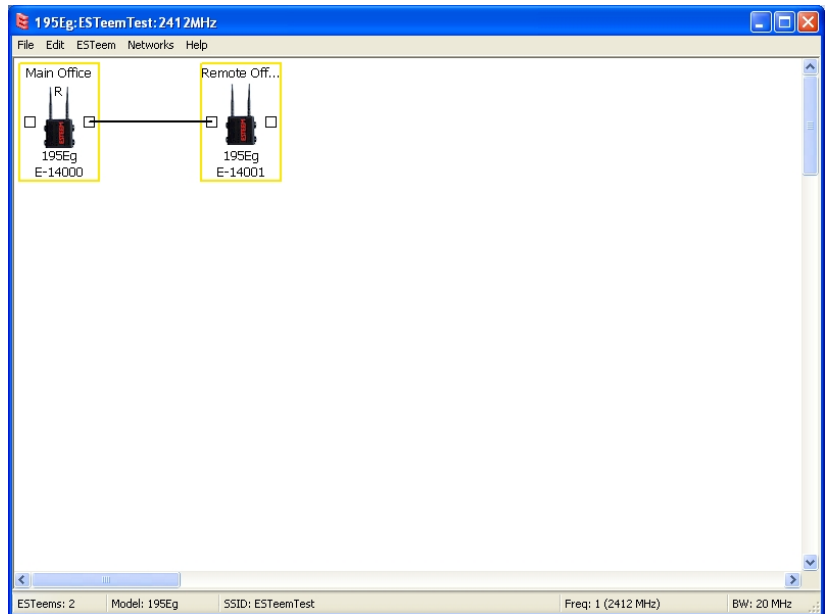

Figure 13: Create Wireless Link
1. Add the two ESTeem Model 195C/Ms to the network using the above procedure. Once both ESTeem 195C/Ms are on the configuration page, create a wireless link by clicking on one of the two connection boxes and dragging a line to the other modem (Figure 13).